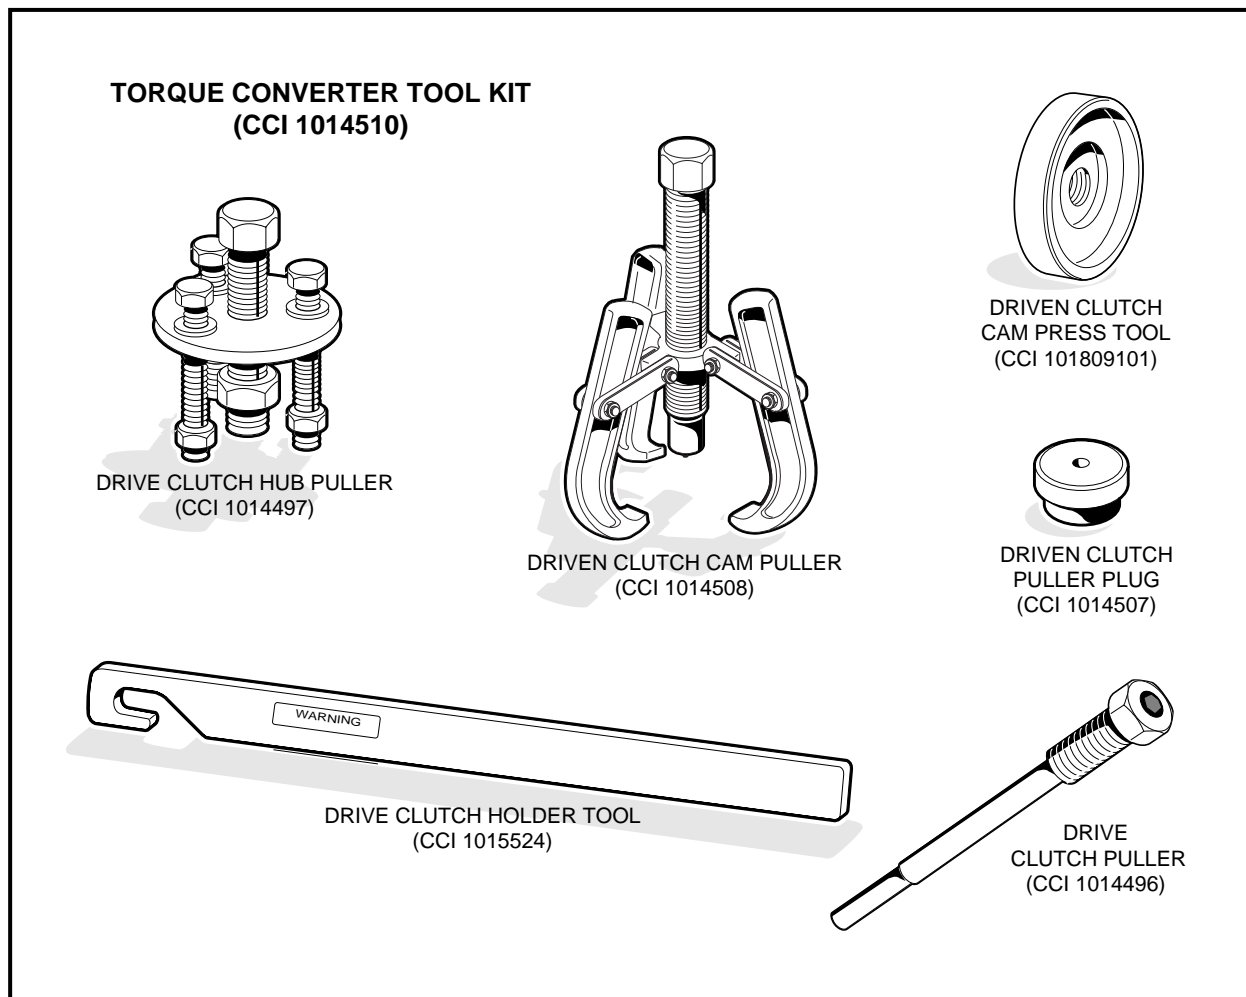

Figure 17-1 Torque Converter Tool Kit
- Torque Converter Tool Kit (CCI 1014510) (**Figure 17-1, Page 17-2**).